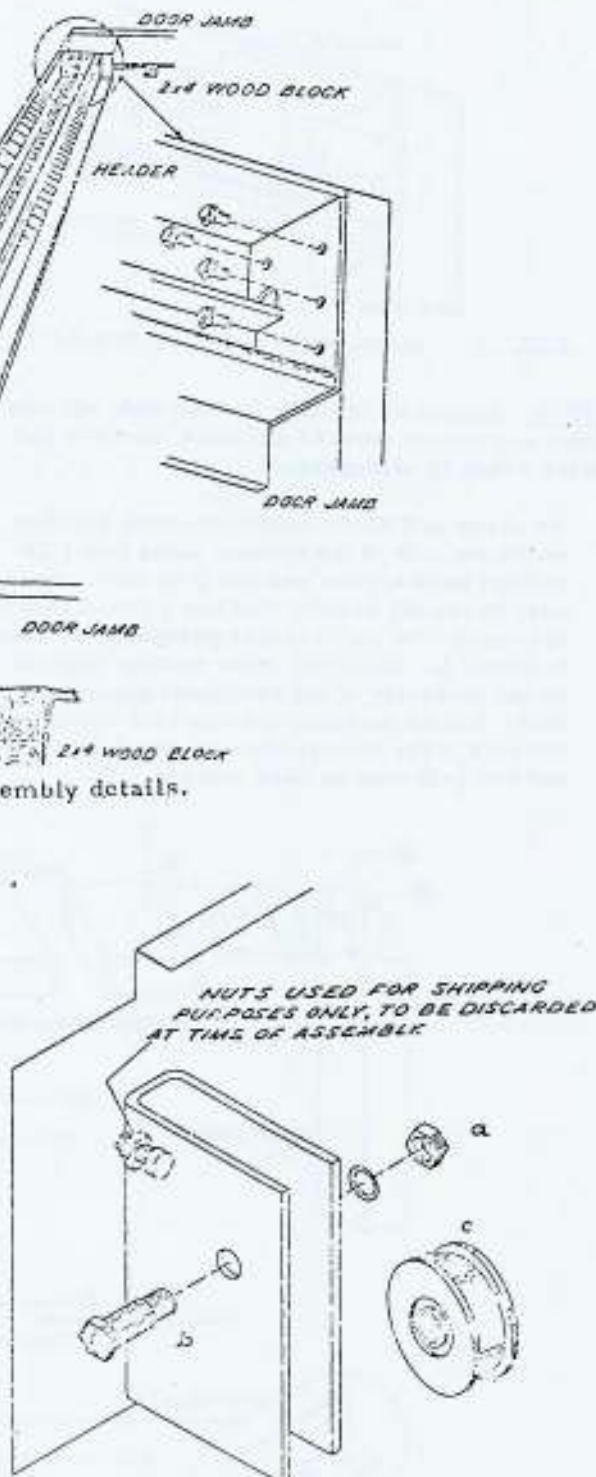

FIG. 5 Removing pulley and bracket.
5. Remove the cable roller bracket from the L.H. end of header, (see FIG. 5).